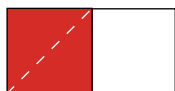
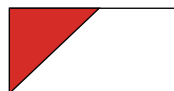

Fig. 2
Fig. 3
2. Place (1) $2''$ Fabric F square on the left side of (1) $2'' \times 3\frac{1}{2}''$ Fabric G strip, right sides together (Fig. 2). Sew across the diagonal of the square from the upper right corner to the lower left corner (Fig. 2). Flip open the triangle formed and press. Trim away the excess fabric from behind the triangle, leaving a $\frac{1}{4}''$ seam allowance (Fig. 3).